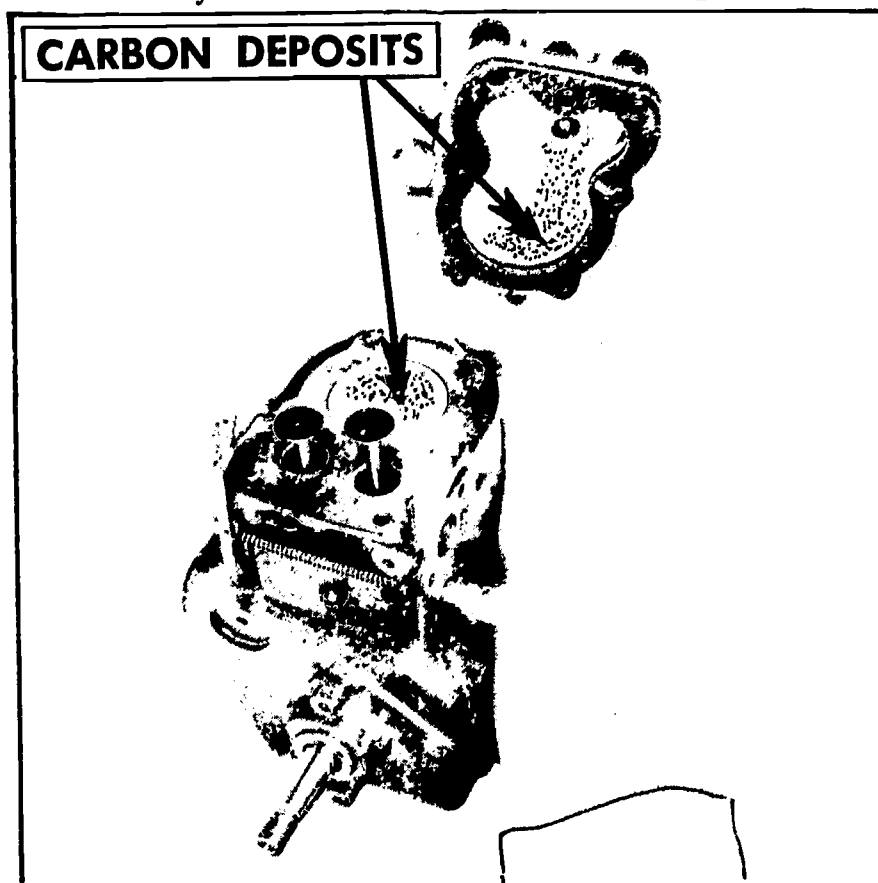

FIGURE 191. Clean the carbon from the cylinder head, from the piston and from around the valve seats.
9. *Clean the head, the piston and the area around the valve seats (Figure 191).*